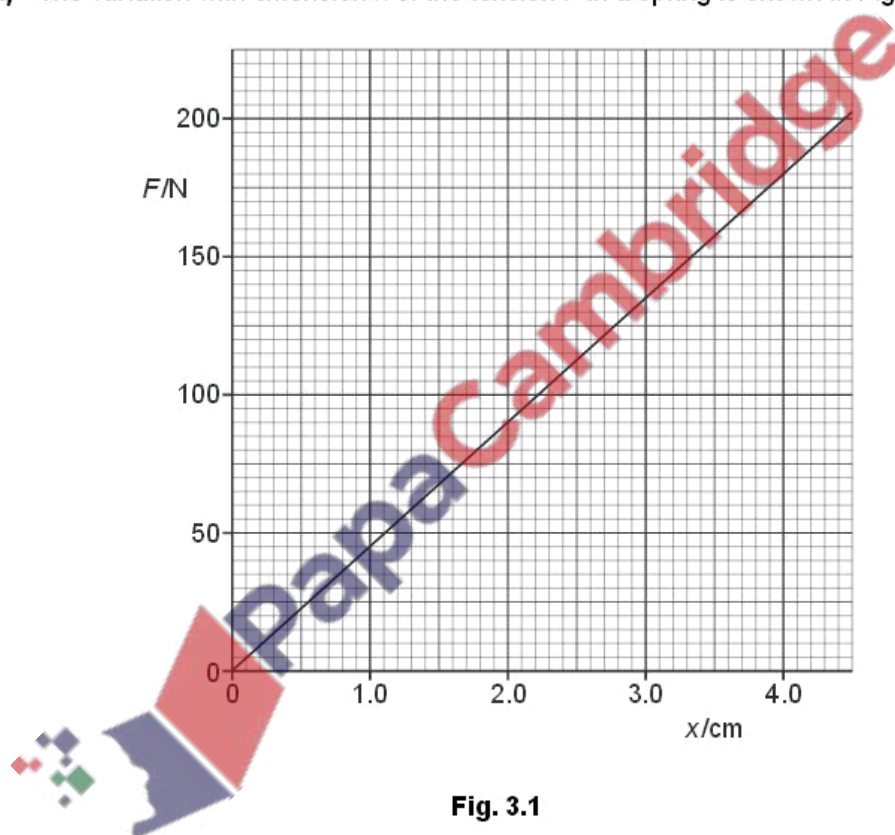

Fig. 3.1
- 3 (a)** The variation with extension x of the tension F in a spring is shown in Fig. 3.1.
Use Fig. 3.1 to calculate the energy stored in the spring for an extension of 4.0 cm.